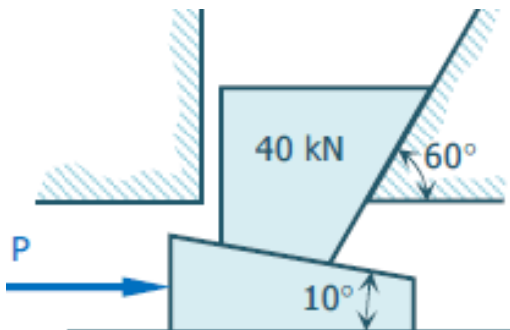

Fig. 3
Q3. Determine the value of P just sufficient to start the 10° wedge under the 40-kN block as shown in Fig 3. The angle of friction is 20° for all contact surfaces.
Q.3. Determine the value of P just sufficient to start the 10° wedge under the 40-kN block as shown in Fig 3.